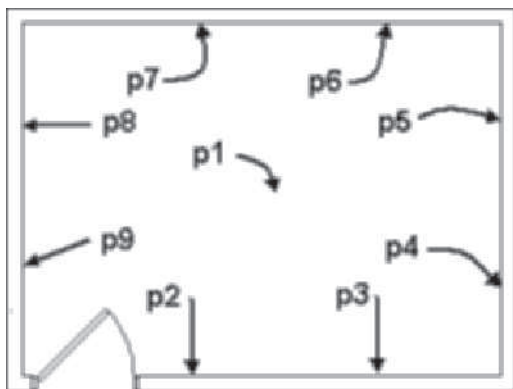

FIGURE 10.19 Locations of receptacles
Insert point or: *(Select the location for the diffuser near p1 as shown in Figure 10.19.)*
11. To complete the tutorial, choose **Design Tool Catalog—Imperial [Design Tool Catalog—Metric]**, expand the **Electrical\Power\Receptacle [Electrical Services > Power Outlets]** folder, and drag the i-drop for the **Duplex Recpt [BS1363 Socket – Any Type]** symbol onto the Electrical tool palette. Select the **Duplex Recpt [BS1363 Socket – Any Type]** symbol from the Electrical tool palette. Edit Specify rotation on screen to **Yes** and add the symbol at points **p2** to **p9** as shown in Figure 10.19.